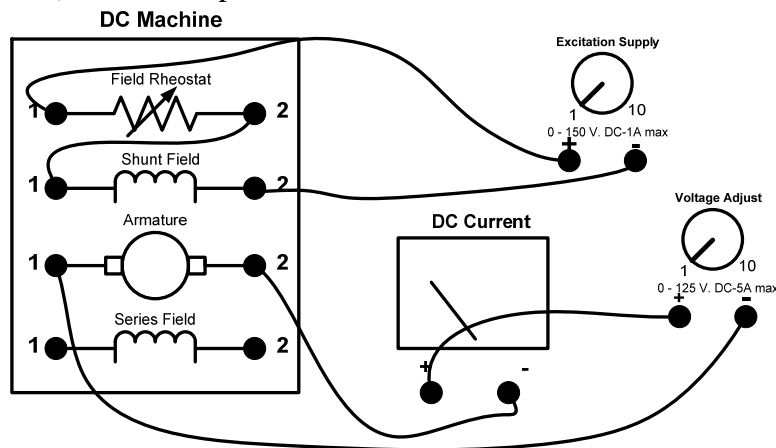

Figure 4
- Refer to Figure 4 as a guide. Using the yellow wires connect the DC variable output (located beneath the Voltage Adjust knob) via the Hampden analog DC ammeter (located on the top of the workbench) to the Hampden DC machine's armature as shown below.